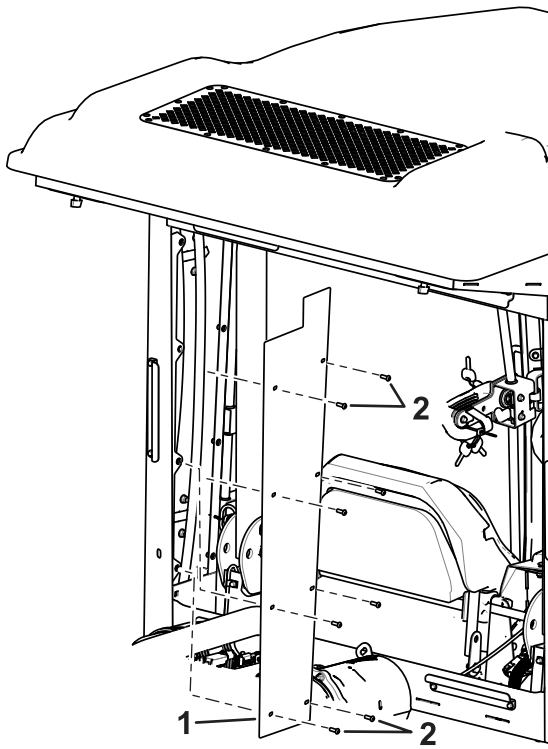

Figure 10
1. Remove the left and right panels from inside the cab as shown in Figure 10.